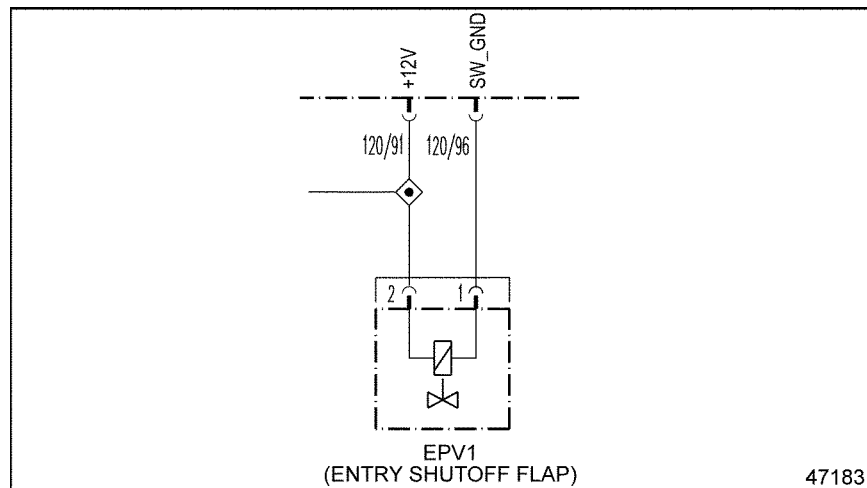

Figure 34-1 EPV1 (Entry Shutoff Flap)
- [a] If the voltage is greater than 11.5 volts, repair the short to power between pin 1 of the EPV1 connector for the Entry Shutoff Flap and pin 96 of the 120-pin MCM connector. See Figure 34-1. Refer to section 34.1.1.1.